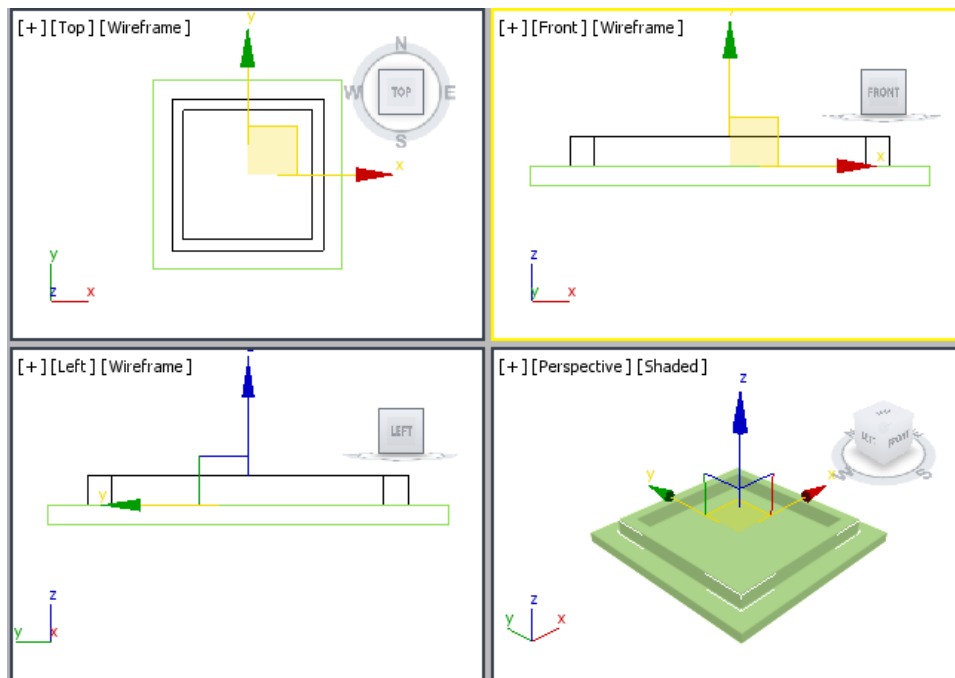

Figure 5-5 The Frame aligned
9. In the Front viewport, move *Frame* so that its bottom touches the upper part of *Top*, as shown in Figure 5-5.